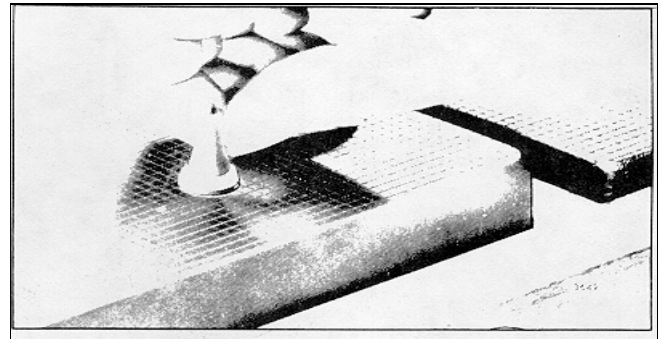

Fig. 33 - Lapping Spray Tip on Lapping Blocks J 22090
3. Place the part to be lapped flat on the block as shown in Fig. 33 and, using a figure eight motion, move it back and forth across the block. Do not press on the part, but use just enough pressure to keep the part flat on the block. It is important that the part be kept flat on the block at all times.